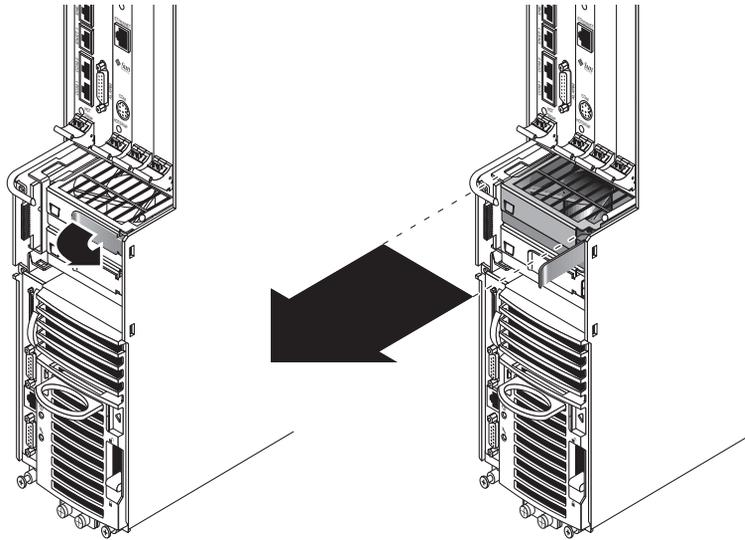

FIGURE 2-5 Removing a Fan Tray from a Netra CT 410 Server
- If you are removing a fan tray from a Netra CT 410 server, pull on the fan tray handle to disengage the tray from the server (FIGURE 2-5).
- If you are installing a fan tray into a Netra CT 410 server, make sure the handle on the fan tray is flush against the fan tray, and press the fan tray handle to lock the tray into place (FIGURE 2-5).